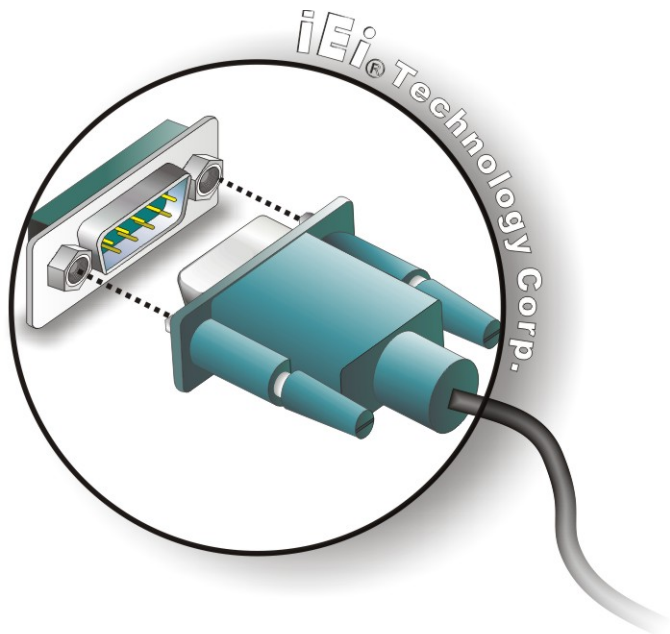

Figure 5-24: Serial Device Connector
Step 2: **Insert the serial connector.** Insert the DB-9 connector of a serial device into the DB-9 connector on the external peripheral interface. See **Figure 5-24**.